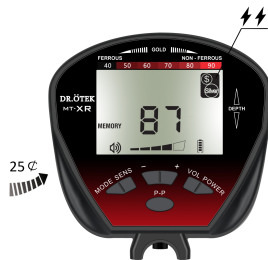

Fig.11
- When sweeping the other three samples, the corresponding target cursor flashes, and the digital cursor shows the corresponding number. (See Fig.11, using 25 ¢ silver coin as an example)